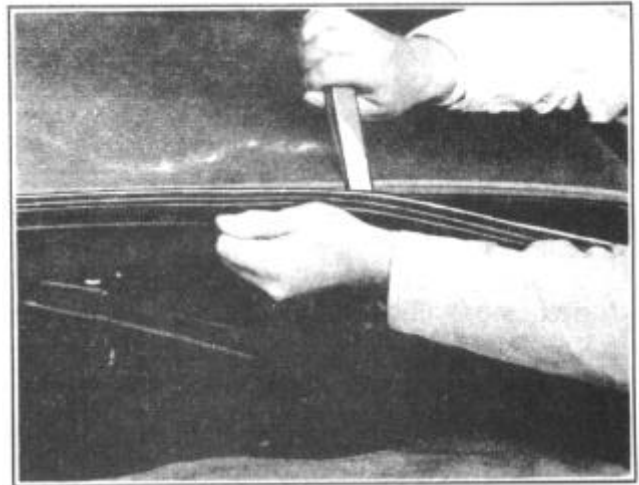

FIGURE 71
1. With a tapered fibre tool, open up the groove of the weatherstrip and press weatherstrip over the rear window opening pinchweld, Figure 71.